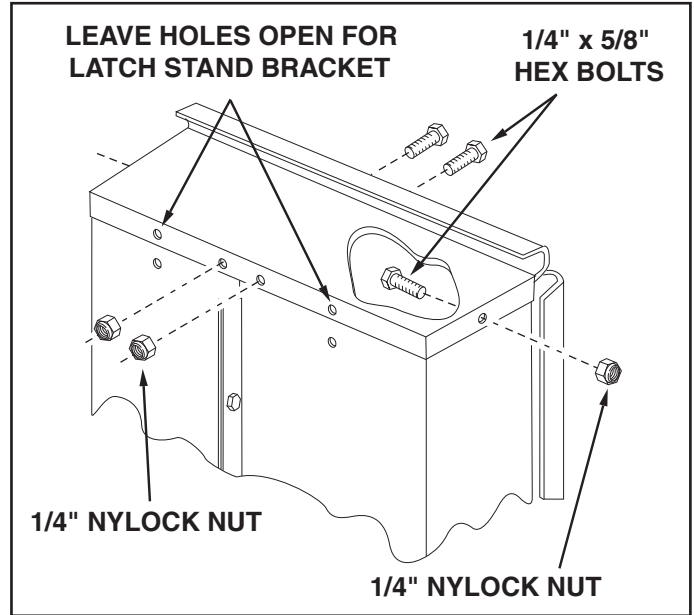

FIGURE 4
- Assemble the front panel over the end of the cart using four 1/4" x 5/8" hex bolts and 1/4" nylock nuts as shown in figure 4. Leave empty the two holes shown in the bottom of the panel. Pull the cart body halves together and **tighten** the two bolts in the bottom of the front panel, then **tighten** the bolt in each side.